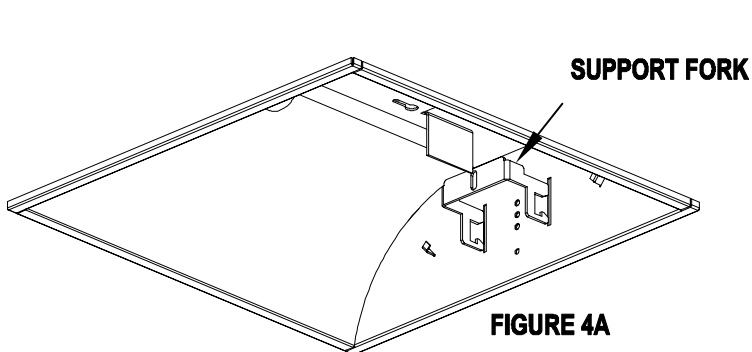

FIGURE 4A
4. INSERT SUPPORT FORK THROUGH SLOTS IN HOUSING, PRESS FORK DOWN UNTIL CONTACT IS MADE WITH DRYWALL CEILING, AND SECURE WITH SUPPLIED #8 SCREW. REPEAT PROCEDURE FOR OTHER SIDE. (FIG. 4A & 4B)